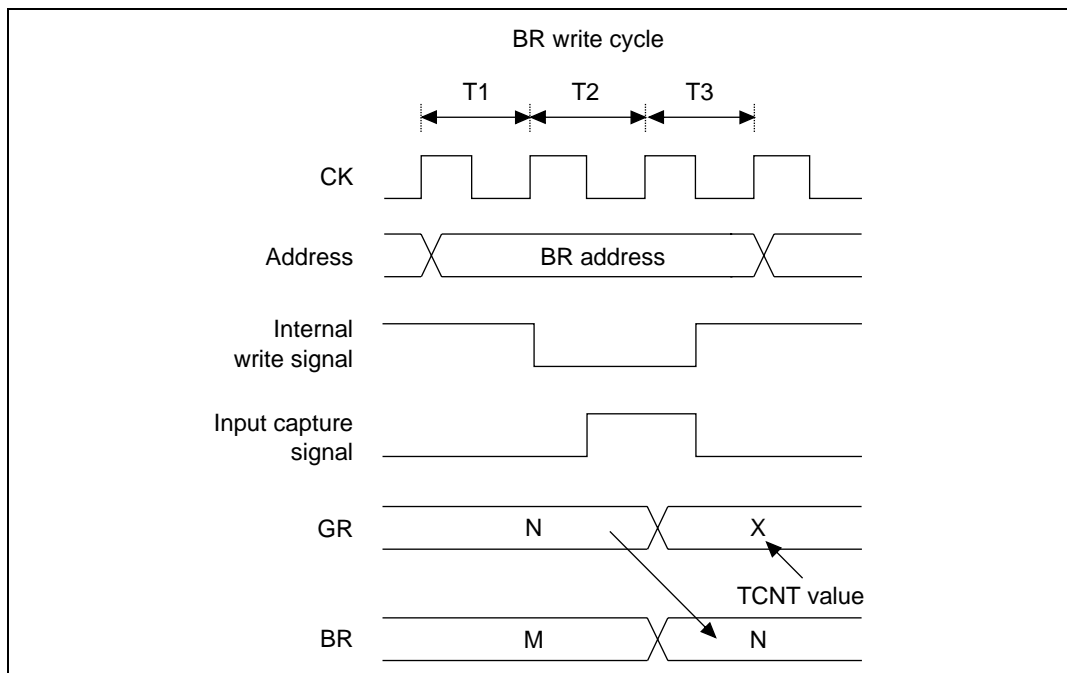

Figure 10.66 Contention between BR Write and Input Capture
When a buffer register (BR) is being used as an input capture register and an input capture signal is generated in the T3 state of the write cycle, the buffer operation takes priority over the BR write. The timing is shown in figure 10.66.